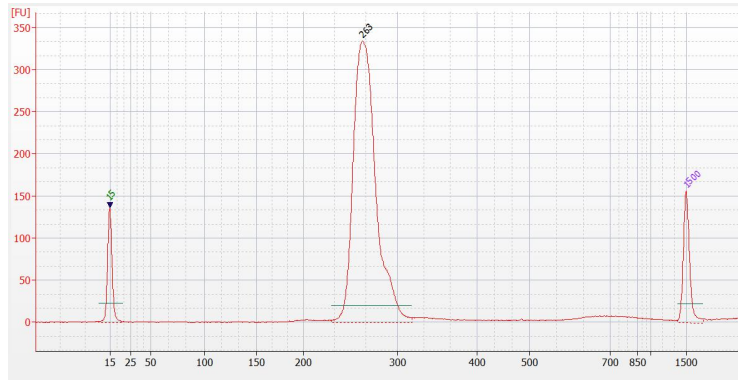

Figure 2 Diagram of the quality control of the library on Agilent 2100 Bioanalyzer DNA1000 Chip Reagent
- 2) DNA fragment QC (optional): Quantify the DNA library fragment size using Agilent 2100 Bioanalyzer System and Agilent DNA 1000 Kit, the main peak of the DNA fragment size should be at 230~330 bp, as shown in Figure 2.